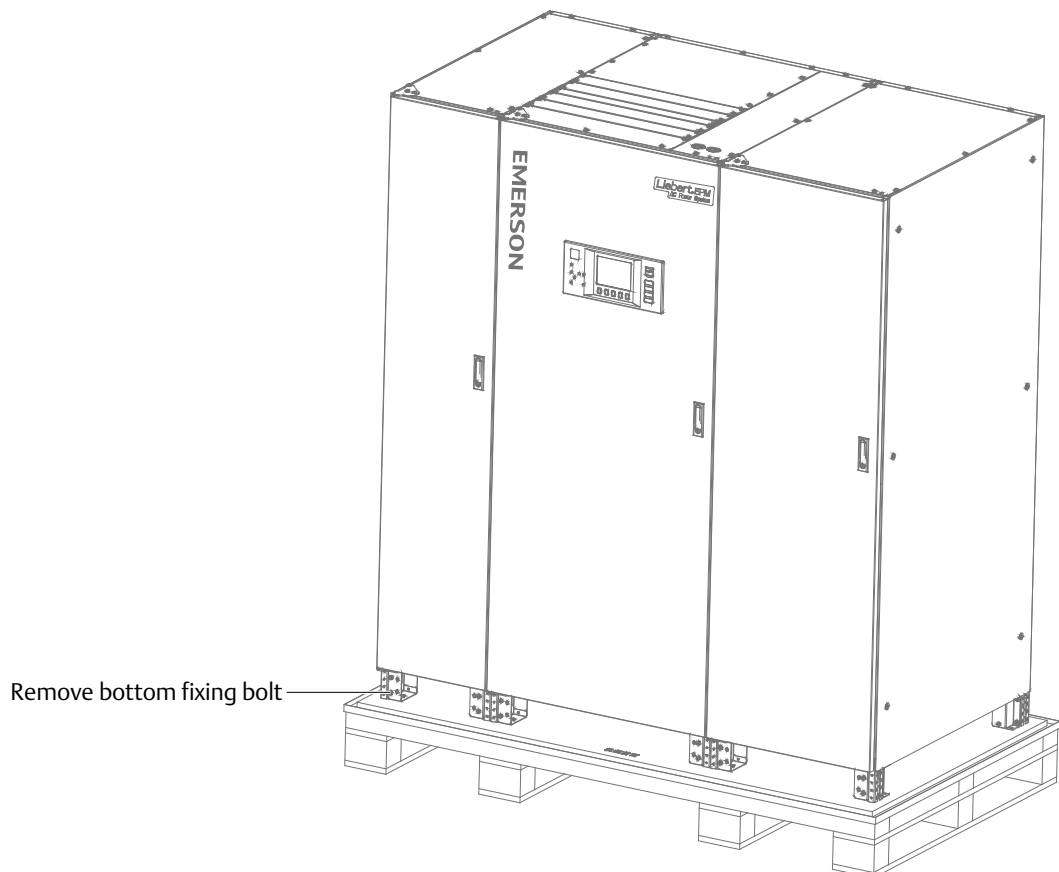

Figure 2-4 Removing bottom bolts
3. According to Figure 2-4, remove the fixing bolts at bottom of the cabinet.